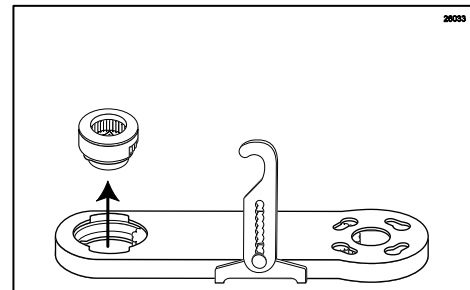

Figure 29
- Remove the Gear Cartridge from the Gear Box. (See Figure 29.)